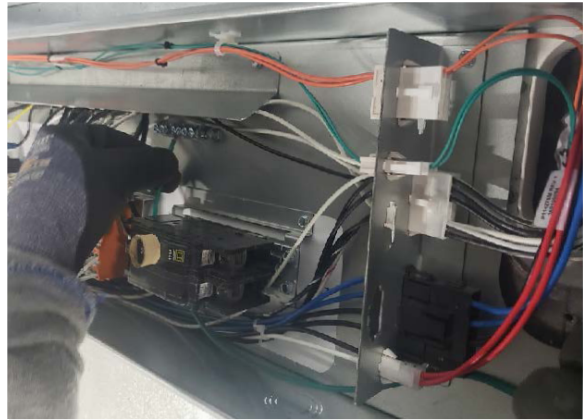

Fig. 62 Electrical Connections
7. Route the green case ground wire along the right-hand (RH) side of the box and in front of the circuit breaker and install ground wire to ground terminal block (Fig. 62).